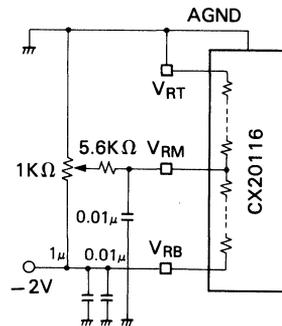

Fig. 5 Linearity compensation
7. Reference Inputs (V_{RT} , V_{RM} , V_{RS}) (See Fig. 5.)